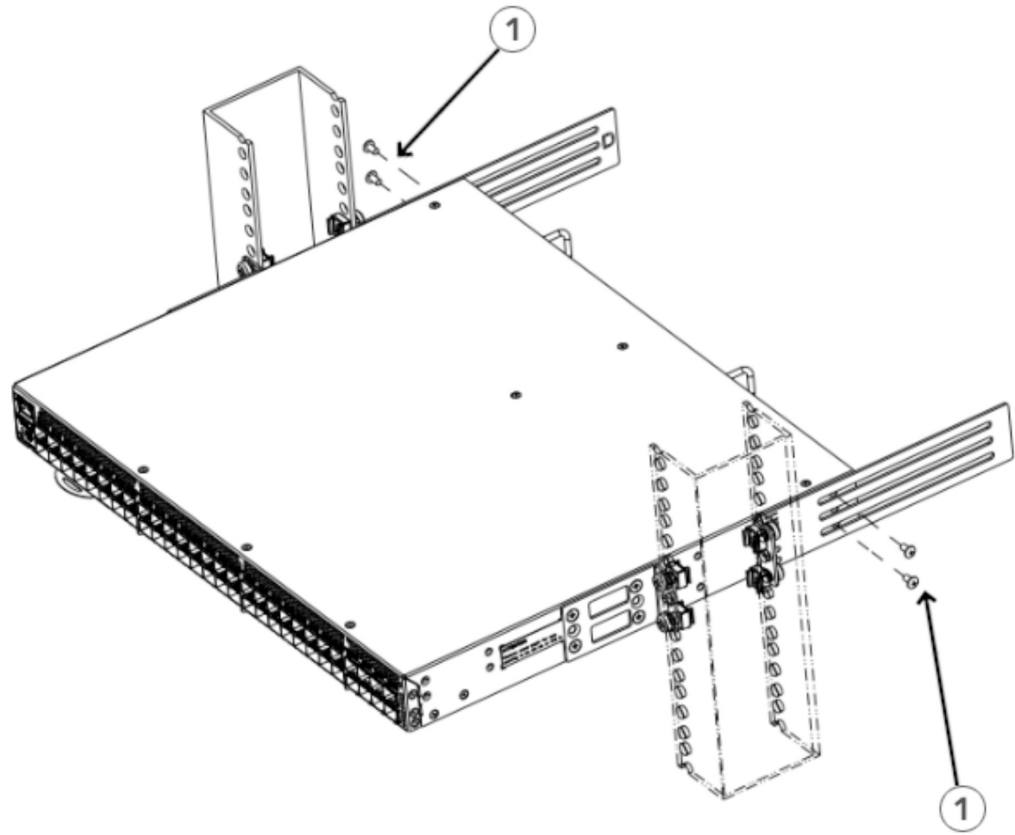

Figure 24. Attaching the rear brackets to the device
1. Align the right rear bracket to the right rear of the device and use four 8-32 x 5/16-in. panhead screws to attach the bracket to the device, as shown in Figure 24 on page 35. Be sure to insert the screws through the upper and lower slots in the bracket.